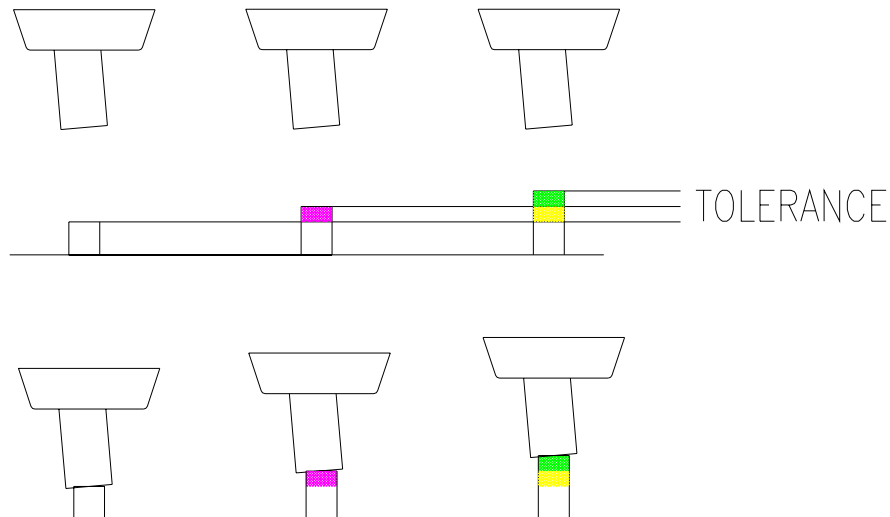

Fig. 1
1. In set up mode, the non-rotating stationary forming tool is advanced until it makes contact with a known, and qualified, rivet/fastener (Fig. 1)